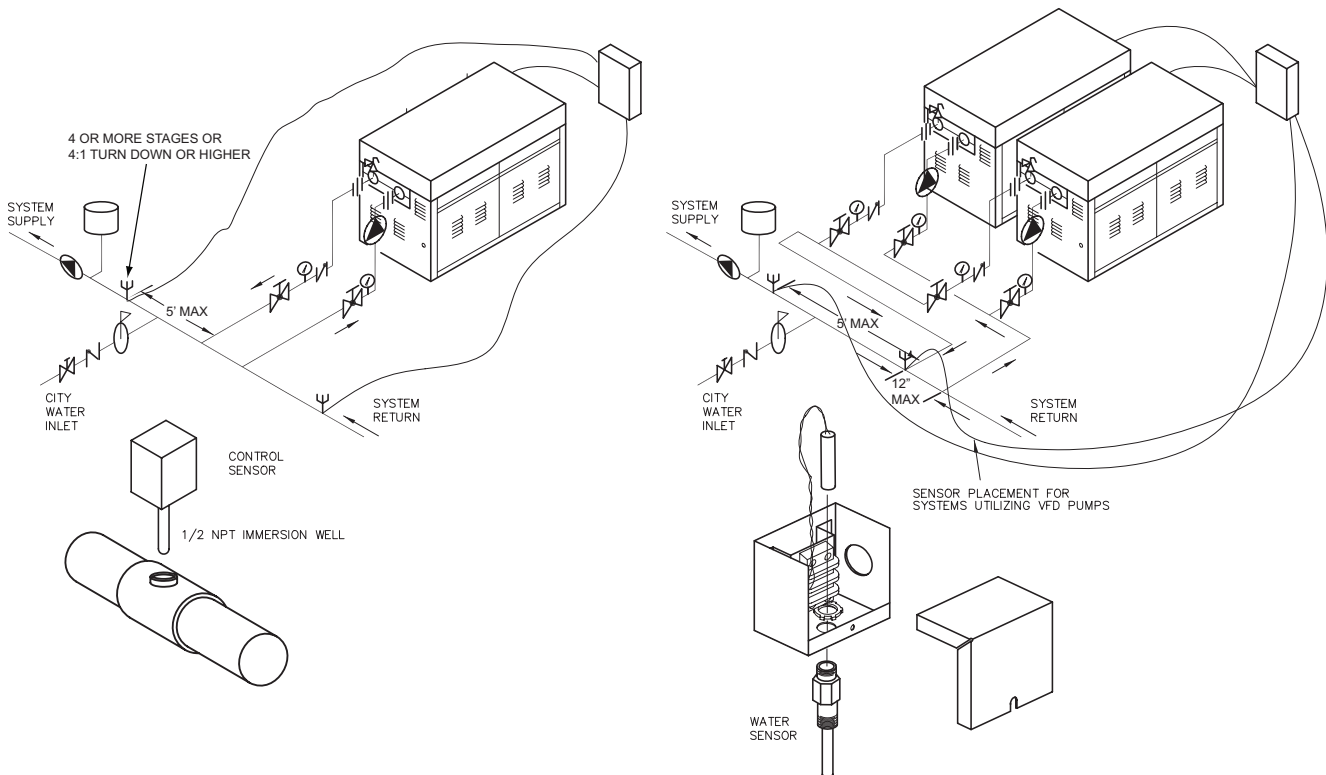

Fig. 6: Typical Water Sensor
- Locate the water sensor as shown in Fig. 6